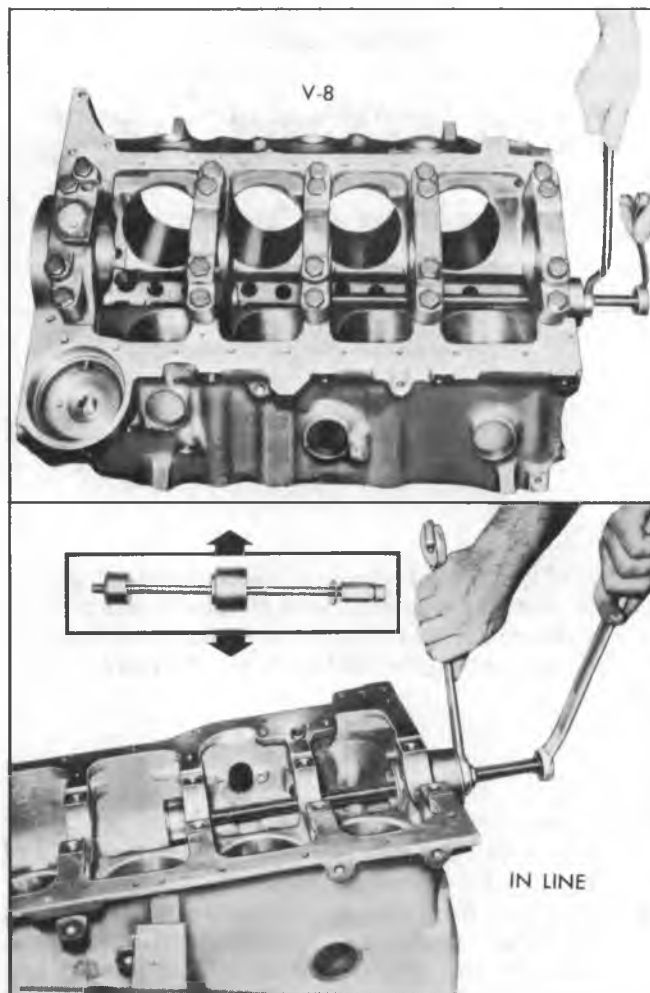

Fig. 68--Replacing Camshaft Center Bearing
4. Using two wrenches, hold puller screw while turning nut. When bearing has been pulled from bore, remove remover and installer tool and bearing from puller screw (fig. 68).
4. Using two wrenches, hold puller screw while turning nut. After bearing has been pulled into bore, remove the remover and installer tool from puller screw and check alignment of oil hole in camshaft bearing (fig. 68).